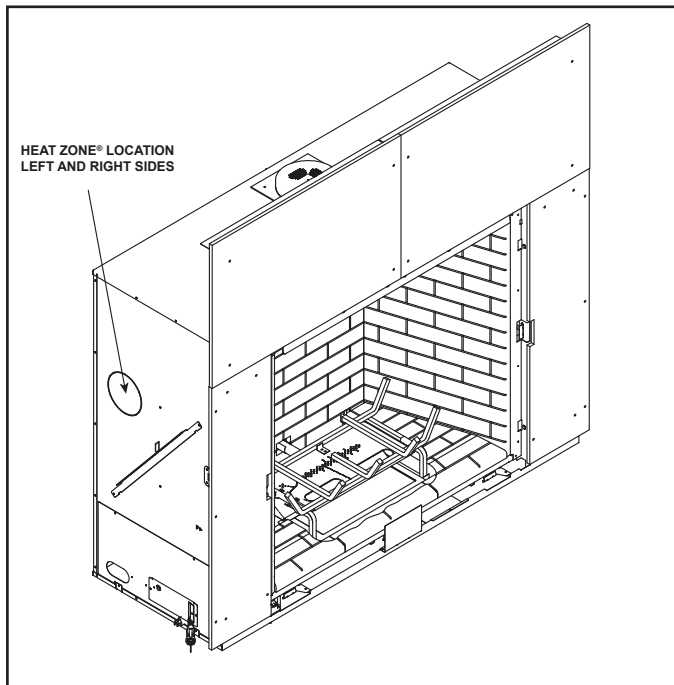

Figure 5.5 Heat Zone Cover Plate
- Locate the Heat-Zone® ports on the left and right sides of the appliance. See Figure 5.5. Remove the knockouts from the appliance with a tin snips.